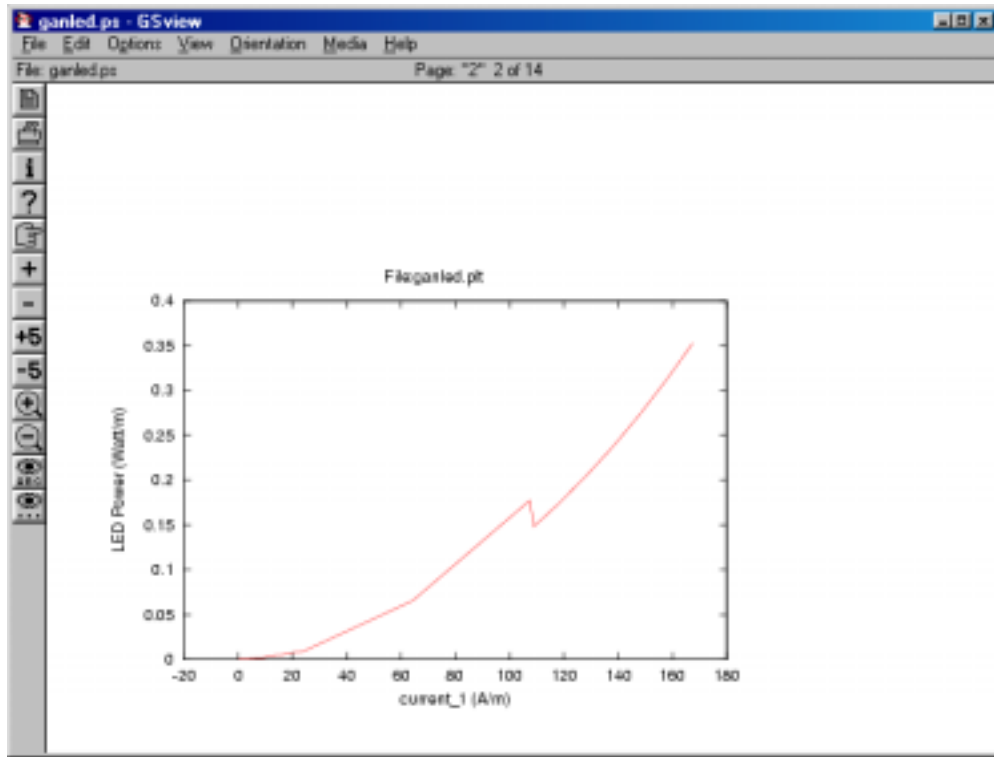

Fig. 16b: Total LED power vs. voltage.
- total internal light power vs. current with the power given in W/m (Fig. 16b)